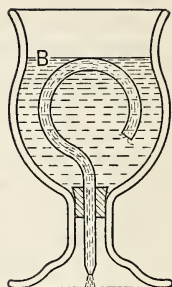

FIG. 117. The intermittent siphon.
7. To what height must the siphon shown in Fig. 117 be filled before it begins to flow? How long will it continue to flow? To what height must the water rise before it starts flowing a second time? (Some springs which flow for a given period and then stop flowing for a few weeks or months are believed to have siphon-shaped outlets. Make a sketch diagram to show how such an intermittent spring would work.)